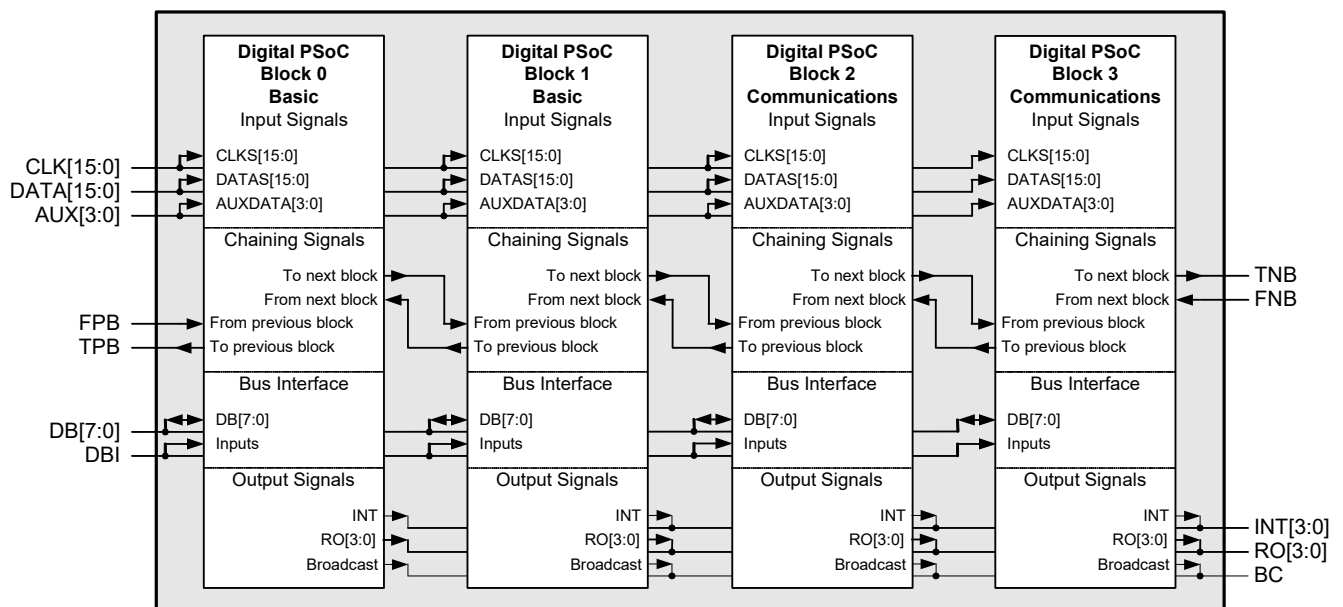
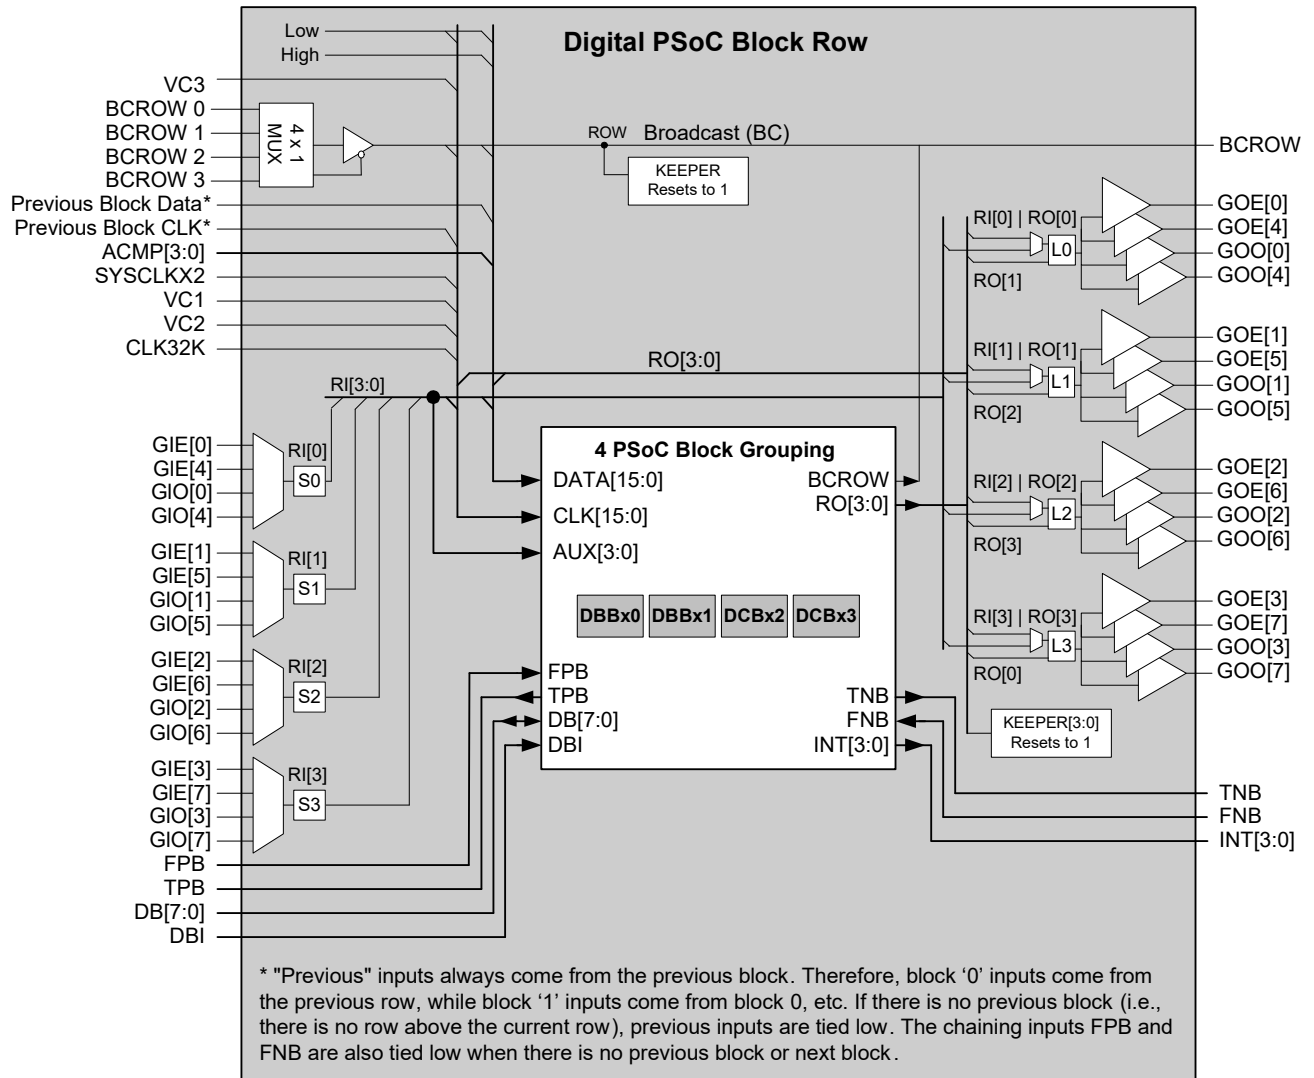

Figure 16-1. Detailed View of Four PSoC Block Grouping
Figure 16-2. Digital PSoC Block Row Structure
In Figure 16-1, within a digital PSoC block row, there are four digital PSoC Blocks. The first two blocks are of the type basic (DBB). The second two are of the type communication
(DCB). This figure shows the connections between digital blocks within a row. Only the signals that pass outside the gray background box in Figure 16-1 are shown at the next level of hierarchy in Figure 16-2 on page 317.
In Figure 16-2, the detailed view shown in Figure 16-1 of the four PSoC block grouping, has been replaced by the box in the center of the figure labeled “4 PSoC Block Grouping.” The rest of the configurable nature of the Row Inputs (RI), Row Outputs (RO), and Broadcast clock net (BC) is shown for the next level of hierarchy.
As shown in Figure 16-2, there is a **keeper** connected to the row **broadcast net** and each of the row outputs. The keeper sets the value of these nets to '1' on system reset and holds the value of the net should it become un-driven.
Notice on the left side of Figure 16-2 that global inputs (GIE[n] and GIO[n]) are inputs to 4-to-1 multiplexers. The
The only configurable inputs to a digital PSoC block row are the Global Input Even and Global Input Odd 8-bit buses. The only configurable outputs from the digital PSoC block row are the Global Output Even and Global Output Odd 8-bit buses. Figure 16-2 on page 317 illustrates the relationships between global signals and row signals.
* When the BCSEL value is equal to the row number, the tri-state buffer that drives the row broadcast net from the input select mux is disabled, so that one of the row's blocks may drive the local row broadcast net. * Refer to Figure 16-2 on page 317. * If the row is not present in the part, the selection provides a logic 1 value.
The outputs from a digital PSoC row are a bit more complicated than the inputs. Figure 16-2 on page 317 illustrates the output circuitry in a digital PSoC row. In the figure, find a block labeled Lx. This block represents a 2-input look-up table (LUT). The LUT allows the user to specify any one of 16 logic functions that should be applied to the two inputs.